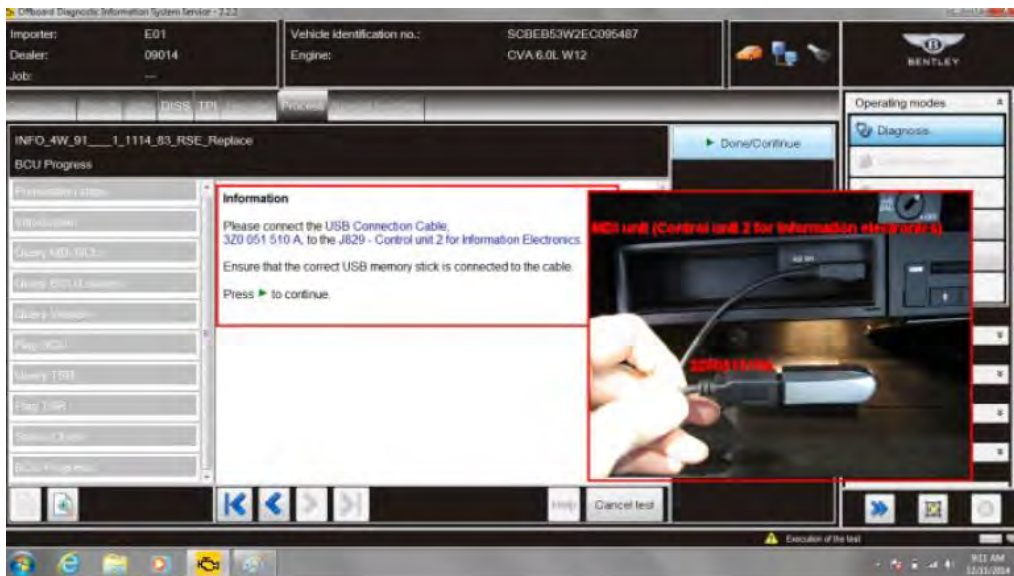

Figure 7
13. As requested connect the USB cable (part number 3Z0051510A) to the memory stick (part number WT10473) and connect that assembly to the MD1 unit (Control unit 2 for Information Electronics) located in the glove box. Once connected select Continue (see Figure 7) once connected the updates should begin within 5 seconds